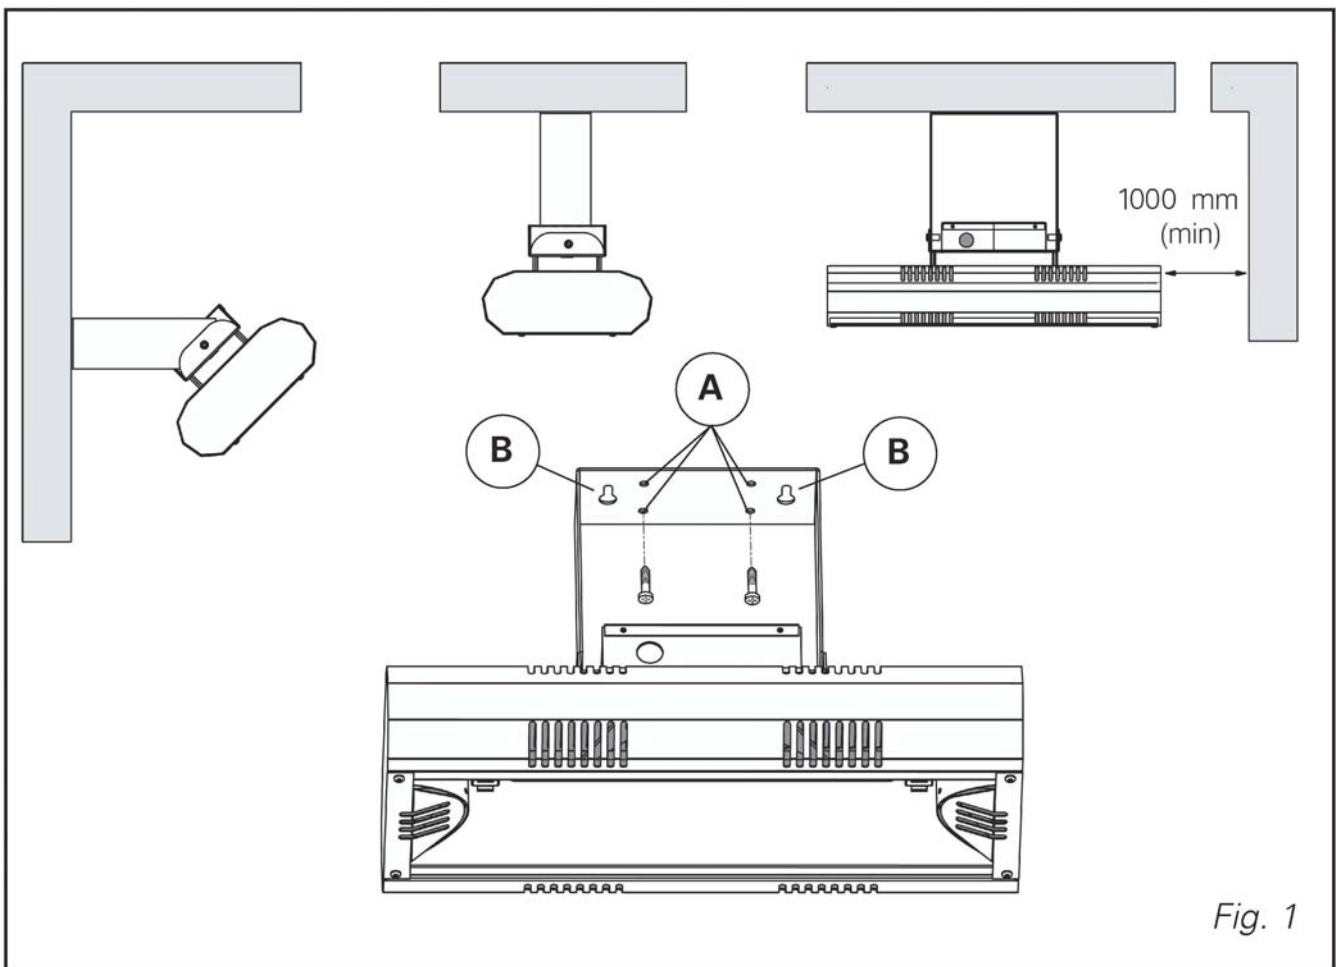

Fig. 1
- Fasten the bracket to the wall with suitable wall plugs and screws by passing through the **A** holes (**fig. 1**).
- Use the **B** holes just as reference (**fig. 1**).